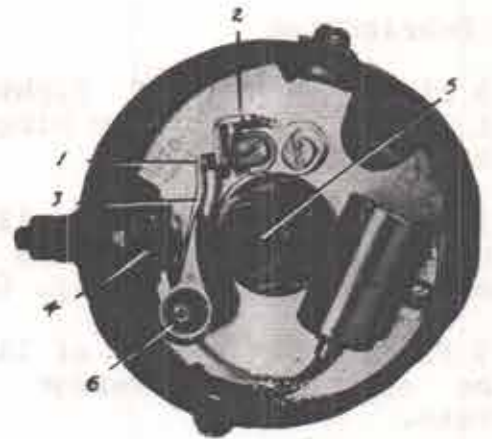

Fig. 60 Distributor Body
(1) Points which show only a slight discoloration and are not badly pitted should be cleaned with a fine point file and reset for a gap
of 0.018 to 0.022 inch. See Fig. 60 (1).
(2) Badly worn or pitted points should be replaced. When replacing points be sure they are properly aligned. Bend stationary arm (2) slightly to align points. Do not bend breaker arm (3).